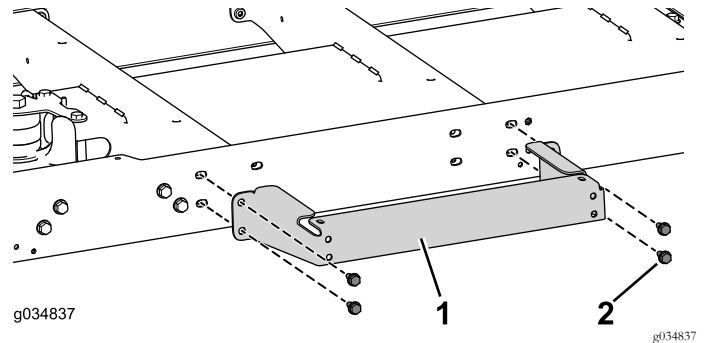

Figure 78
1. Use the 4 bolts (5/16 x 3/4 inch) to loosely install the platform support to the center channel (Figure 78).